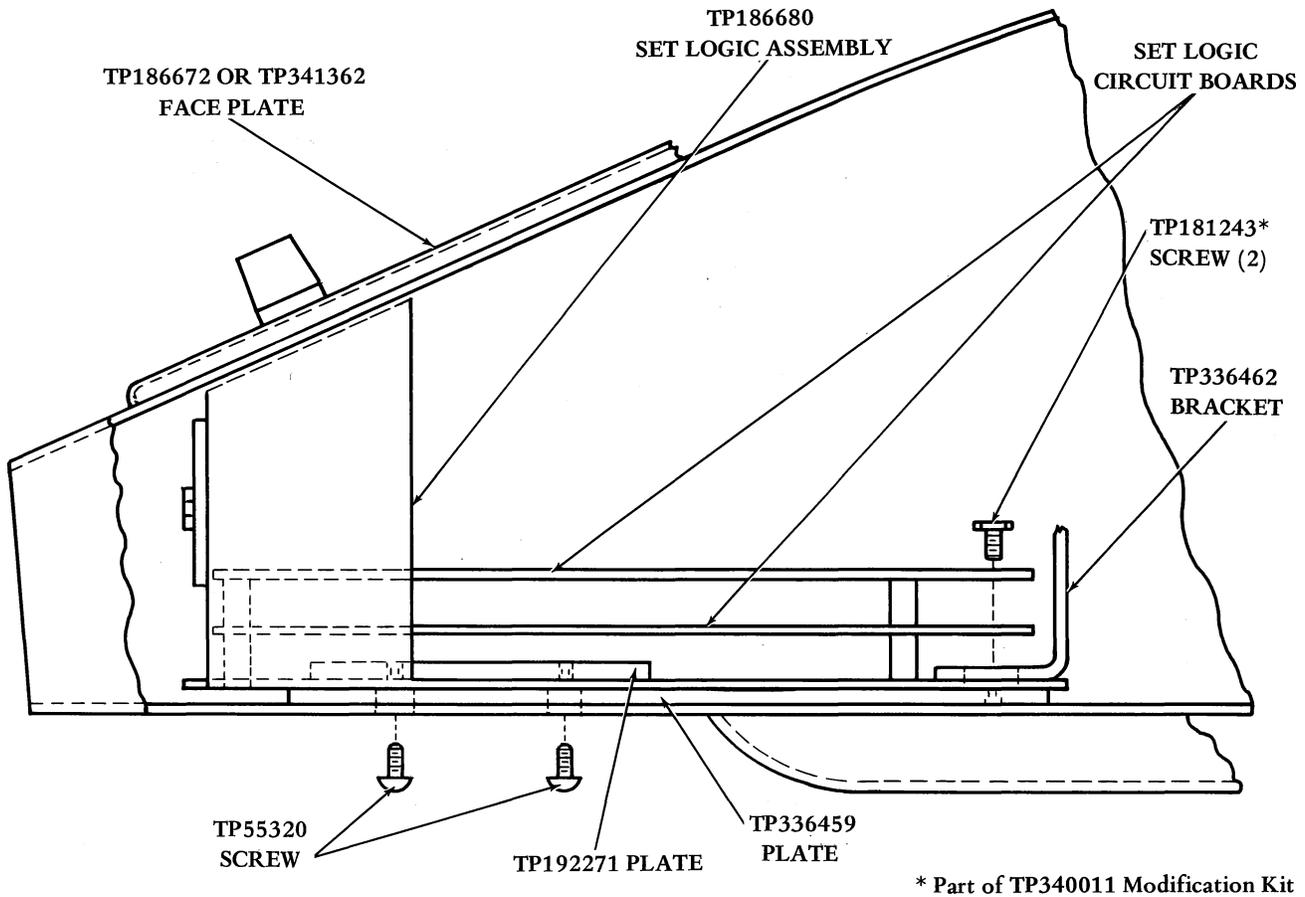

Figure 18 - Logic Mounting in 35 Units
4.33 On the RO set only, remove the lamp from the green PROCEED light socket. Install the set logic assembly using the lower pair of holes in the TP336462 bracket to mount the TP336465 lamp bracket in 35 type cabinets. Use TP181243 screws supplied with modification kit TP340011 to mount the TP336462 bracket to the TP336459 spacer plate. If 108-type data set is used, replace the SPARE label with TEST label TP336632 (Figure 18).